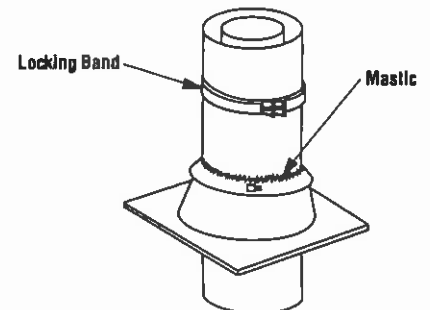

Figure 31
**Step 8.** The standard Superior roof flashing assemblies include a storm collar. Slide storm collar over outer chimney, align with top surface of flashing, insert tab in slot, pull tight and bend tab back over slot. Seal storm collar to outer chimney with roof caulking or mastic around entire circumference of pipe. Also add extra roof caulking where storm collar meets flashing and to the tab/slot area to seal completely against water penetration (Figure 31). Check all joints very carefully to ensure no water intrusion can take place.
**Step 9.** Superior locking bands, Model LB, may be required if the chimney extends too high above the roof flashing. As a general rule, if the chimney extends more than 6' (1.8 m) above the roof flashing, the use of locking bands is advisable to strengthen the chimney assembly. Align the locking band at the chimney joint. Locking bands wrap around pipe joints equally covering the joints of both pipe sections. Use nut provided and TIGHTEN snugly. Do not over-tighten as this might damage chimney section (Figure 31).